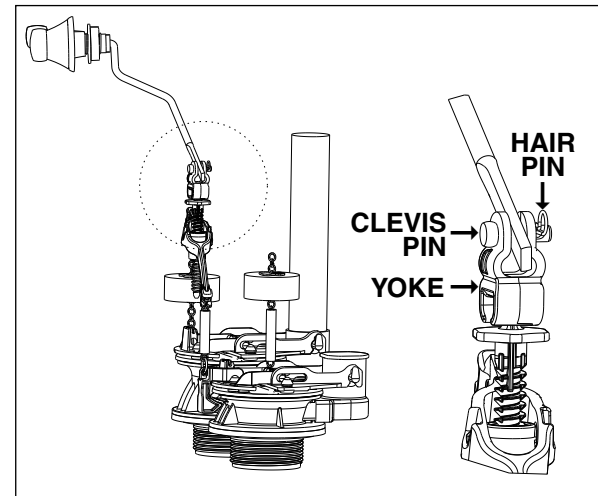

FIGURE 1
- Remove hair pin **FIGURE 1**
- Remove clevis pin; this frees the teeter bar from the trip lever arm **FIGURE 1**
- Insert the trip lever arm in to the yoke **FIGURE 1**
- Push the clevis pin through the arm **FIGURE 1**
- Insert the hair pin **FIGURE 1**